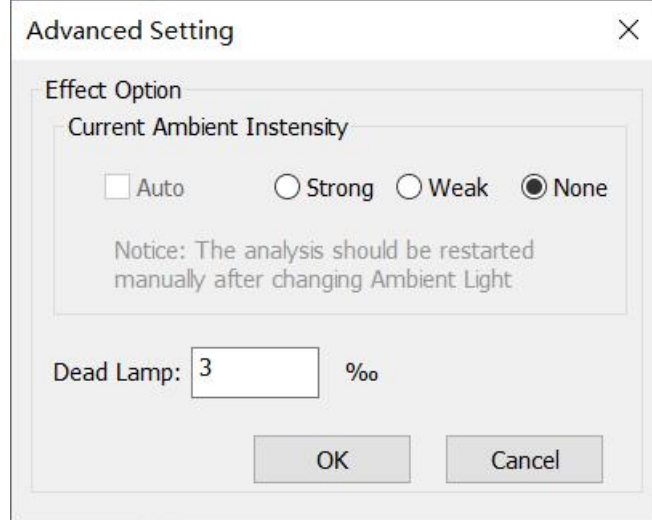

Fig. 6-4 Effect Setting-4
b.CCM camera,the advanced setting dialog cabinet is as shown in Fig.6-4.